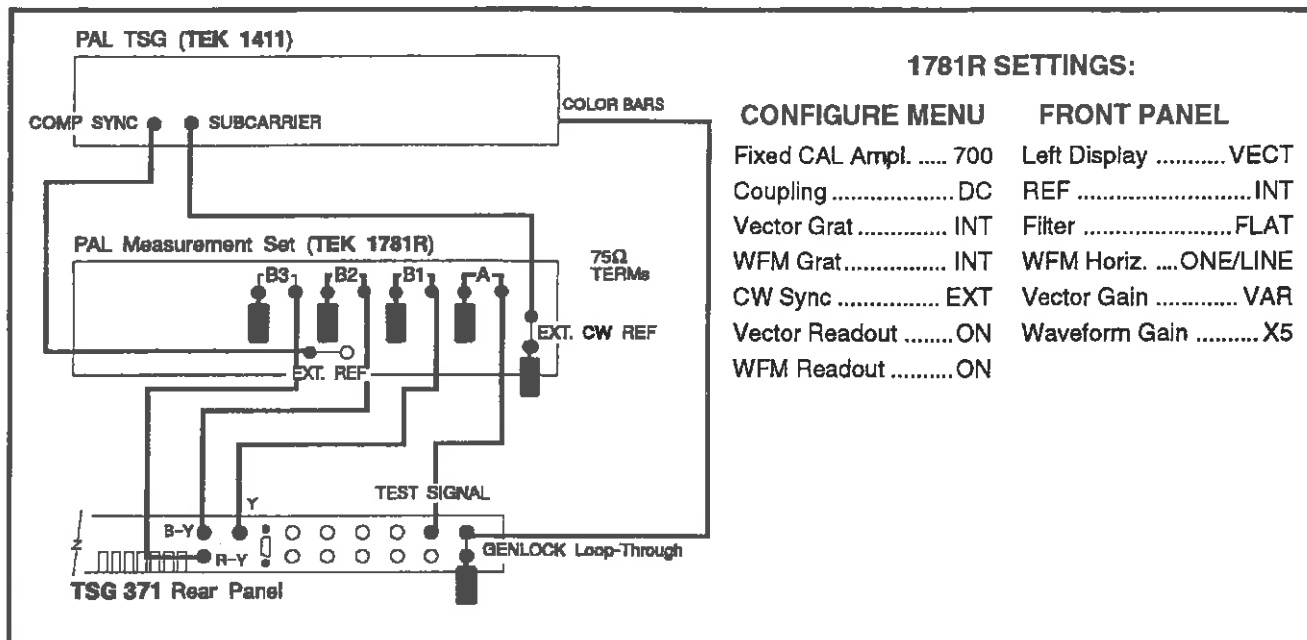

Fig. 5-7 Reference Setup for Procedures 16 through 35.
- a. Connect the equipment as shown in Fig. 5-7. From the TSG 371 front panel, select the color bars for both composite and component.
- a. Begin with the equipment setup shown in Fig. 5-7. Select CH A input (TEST SIGNAL).
- g. Replace BLACK with TEST SIGNAL on the waveform monitor's CH A input (return the equipment to the setup shown in Fig. 5-7).
- a. Begin with the equipment setup in Fig. 5-7. Select the CH B1 (Y) input.